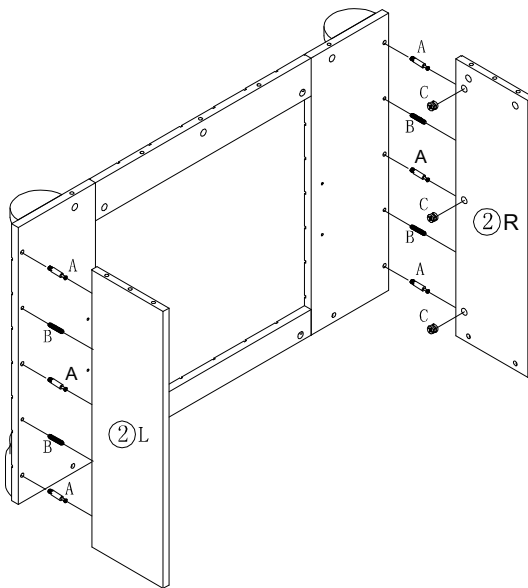

Figure 2
INSERT 4PCS WOOD DOWEL (B) & 6PCS CAM BOLT(A) ONTO CORRESPONDING HOLE OF LEFT AND RIGHT FRONT PANEL(3), THEN INSERT 6PCS CAM-LOCKS (C) INTO BIG HOLES OF LEFT AND RIGTH SIDE PANELS(2) WITH SLOT FOR SCREWDRIVER FACING OUTWARD. ROTATE CAM-LOCKS (C) CLOCKWISE TO SECURE CAM-BOLTS (A). AS FIGURE2 SHOWN.